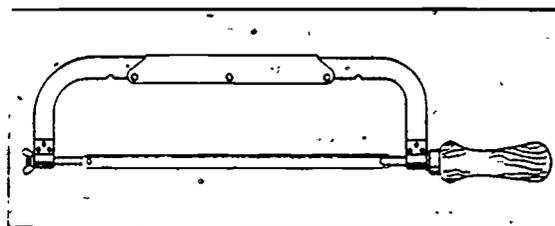

Figure 3-25 Adjustable hacksaw
**Saws.** The hacksaw, one type of which is shown in figure 3-25, is used for cutting metal. Most hacksaws have adjustable frames which use blades from 8 to 16 inches in length. A variety of hacksaw blades are available. They differ in the hardness of the blade and the number of teeth per inch. A hard blade is best for sawing brass, tool steel, or cast iron; but a flexible blade is better for cutting hollow shapes and metals of light cross section, such as tubing, tin, or copper. Always keep the saw in line with the cut being made, and do not bear down on the back stroke because you may cramp and break the blade. The blade may break if you push down too hard on the cut or fail to push the saw in a straight line. If the blade breaks, it can cut your hand. Do not push down on a hacksaw to try to make it cut faster. The weight of the saw should be sufficient to cause the blade to bite into the metal. Keep the hacksaw clean and stored where the blade is protected from becoming dull or broken. Dull hacksaw blades cannot be sharpened; they must be replaced.